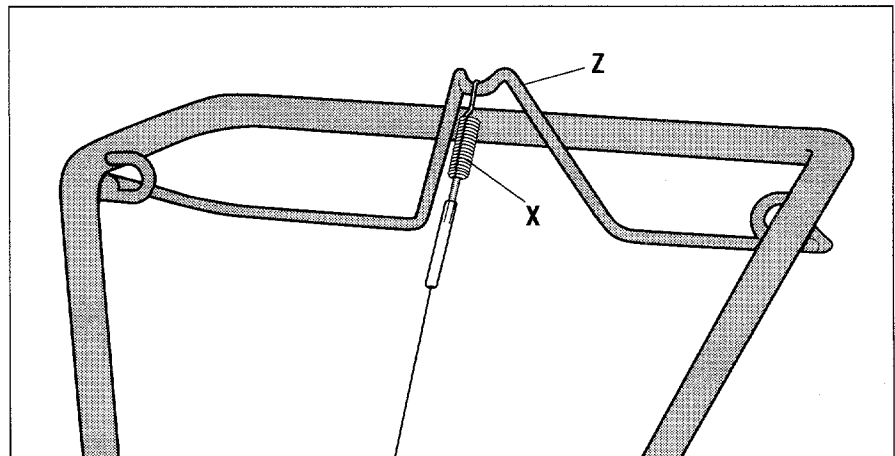
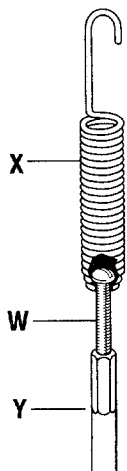

Fig. 2-6: Installing wheel drive cable.
Fig. 2-5: Assemble spring and adjuster.
4. Insert the #10-24 x 2" slotted hd. screw (W, Fig. 2-5) into the cable spring (X).
5. Thread the screw (W) into the cable adjuster (Y).
6. Hook the cable spring (X) into the "V"-shaped bend in the forward clutch bail (Z, Fig. 2-6).